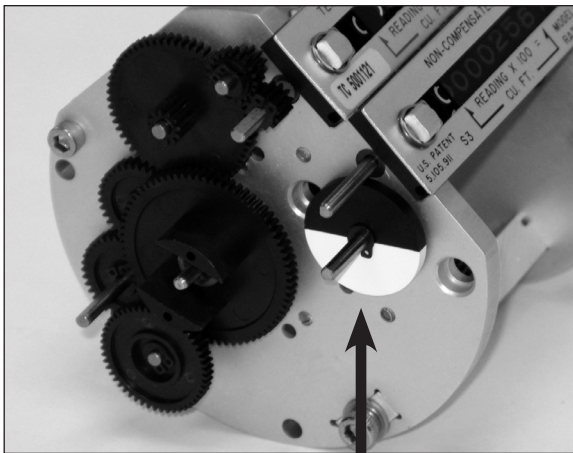

Figure 16 - Black and white RPM wheel
- b) Partially open the meter inlet gas valve until the meter starts operating at low speed. Throttling the bypass valve may be necessary to initiate gas flow through the meter. Verify gas is flowing through the meter by watching for movement of the black and white RPM wheel on the Accessory Unit. The wheel shown in Figure 16 is visible from either the front or the side of the polycarbonate cover. If movement is present, go to Step c). If the RPM dial is not turning, verify gas is being delivered to the meter. If gas is flowing to the meter inlet and the RPM wheel is not moving, go to Step e).